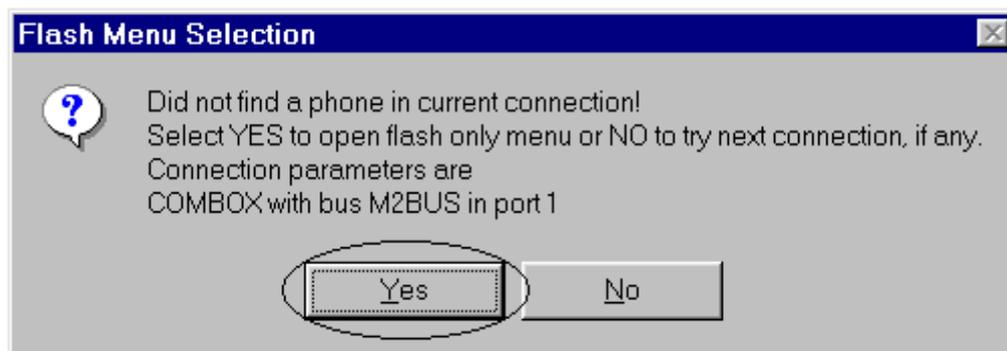

Figure 12. Flash menu selection
2. Use product→ Open→ RAE-5. (Figure 12)